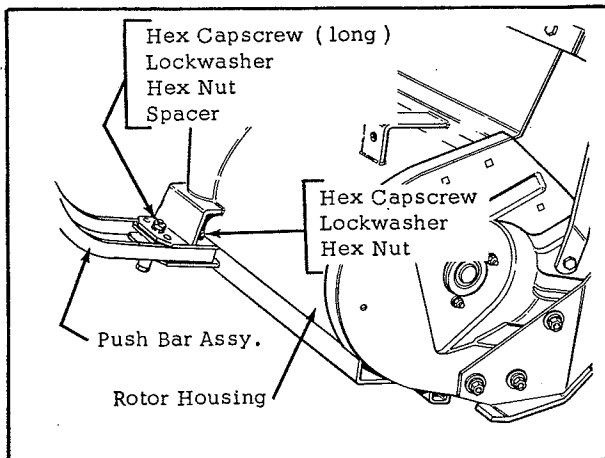

Fig. 1
1. Assemble the push bar to the rear of the rotor housing, using 2 hex capscrews. The long capscrew (7/16"-14 NC x 4 1/2" lg.) and the spacer are used in the rear hole of the push bar as shown in figure 1. The other capscrew (1/2"-13 NC x 2 3/4" lg.) is used in the front hole of the push bar. Fasten the capscrews in place with lockwashers and hex nuts.